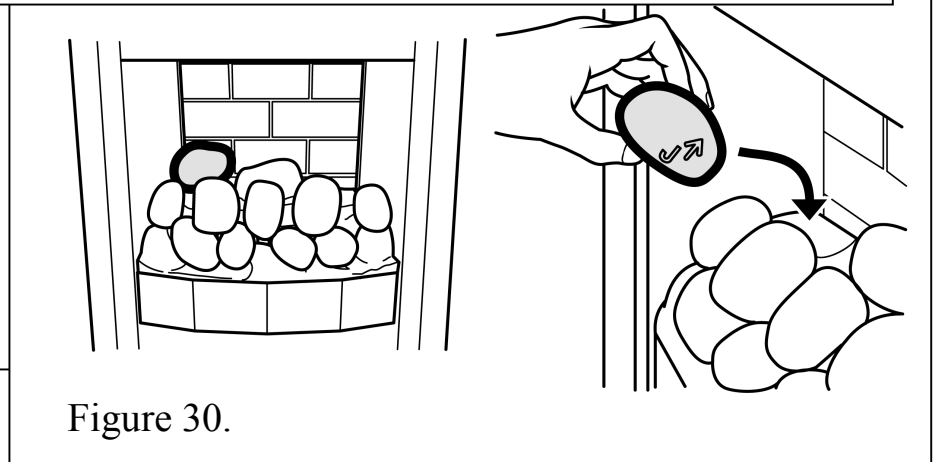

Figure 30.
**12.** Hold pebble 'J' upright with the arrow pointing to the top. Place pebble 'J' on top of the base pebble rear. (See figure 30)